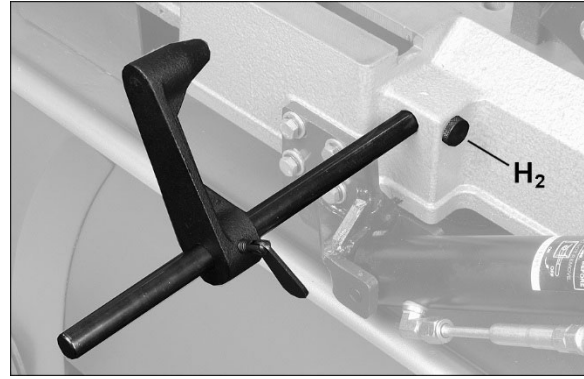

Figure 6-7: installing work stop (712 only)
**712 only:** Install work stop rod into hole and tighten knurled nut (H2). Slide stop block onto rod and secure with thumb screw. See Figure 6-7.